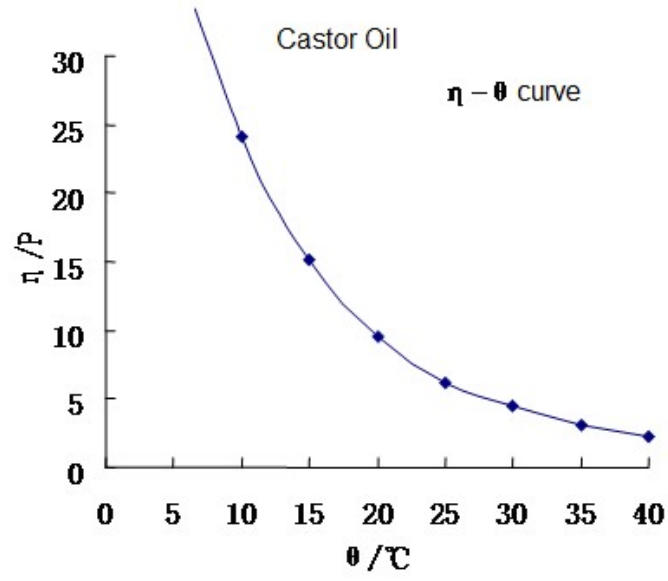

Figure 3 Relationship curve between temperature and viscosity of castor oil
By substituting d , D and H into Eq. (3), we get $\eta = 1.33 \text{ Pa}\cdot\text{s}$, which is close to the reference value of $1.37 \text{ Pa}\cdot\text{s}$ ($< 2.8\%$ error) as listed in Table 2. The relationship between the temperature and viscosity of castor oil is shown in Figure 3. **Note:** as the viscosity of a liquid is related to the temperature of the liquid, which must be measured precisely or significant error will occur.